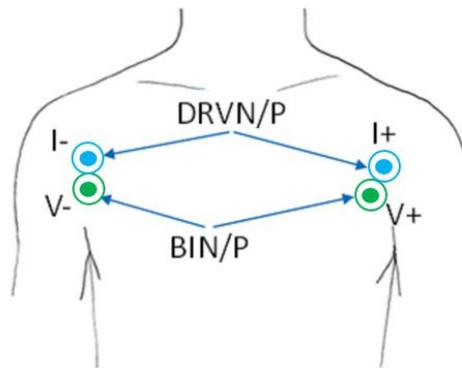

Figure 29. BioZ Electrodes: I- (Blue), I+ (Blue), V- (Green), V+ (Green)
- ▶ Ensure electrodes I+, V+, I-, V- are placed as in Figure 29.